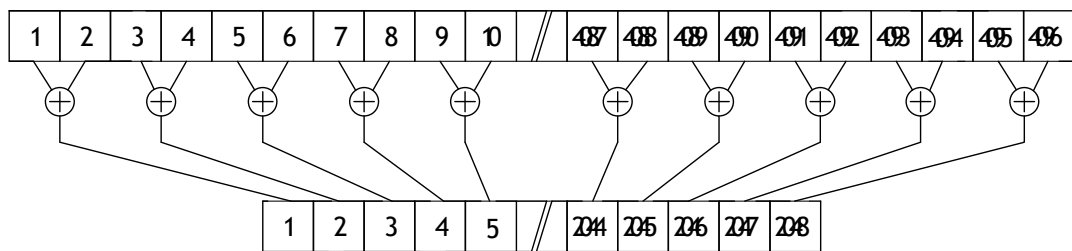

Fig.25 Binning reads out adjacent pixels at the same time
**Area :** This command specifies the area in which pixel shifting will be applied. The image is divided into 16 blocks, with each block representing 256 pixels. Enter a number from 1 to 8 to specify the inner edge of the pixel shifted area. The value is automatically mirrored on both the left and right sides of the image. If the left side pixel value is +/-1, only Area setting (1 to 6 blocks in fig. 25) is used and all pixels in this area will be shifted by 1 pixel. All pixels outside this area (7 and 8, white blocks) will remain un-shifted. If the left side pixel value is +/-2 or +/-3 use the 2nd Pixel Block and 3rd Pixel block fields to define a gradual shift from the edge to the center of the image.
**2nd pixel block :** If the left side pixel value is 2 or more pixels, enter a number in this field to specify the block where the compensation will transition from a 2-pixel shift to a 1-pixel shift. The value entered is automatically mirrored on both the left and right sides of the image. Blocks 1 to 4 in fig.25, are where the 2 to 1-pixel shift will be applied.